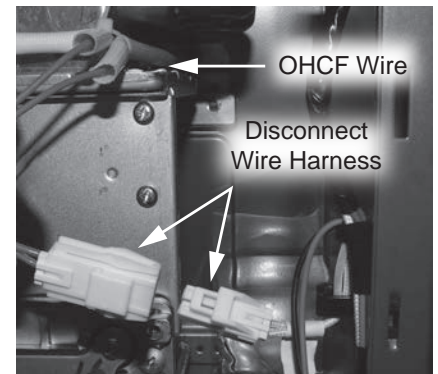

Figure 140 - Disconnecting OHCF wire
- 28 Locate the OHCF wire and disconnect it. See Figure 140.